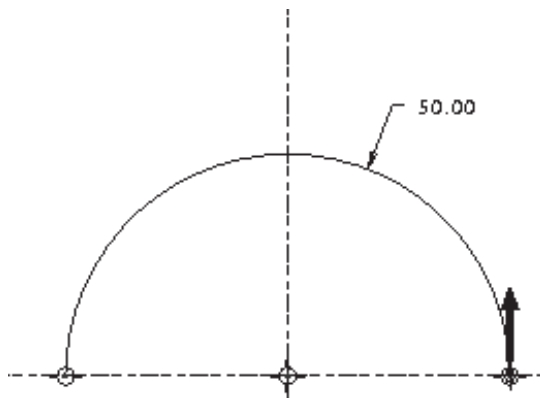

Figure 14-71 Sketch of the first arc
- Create the base feature, which is a blend surface, refer to Figures 14-71 through 14-73.
7. Draw the arc and dimension it, as shown in Figure 14-71.